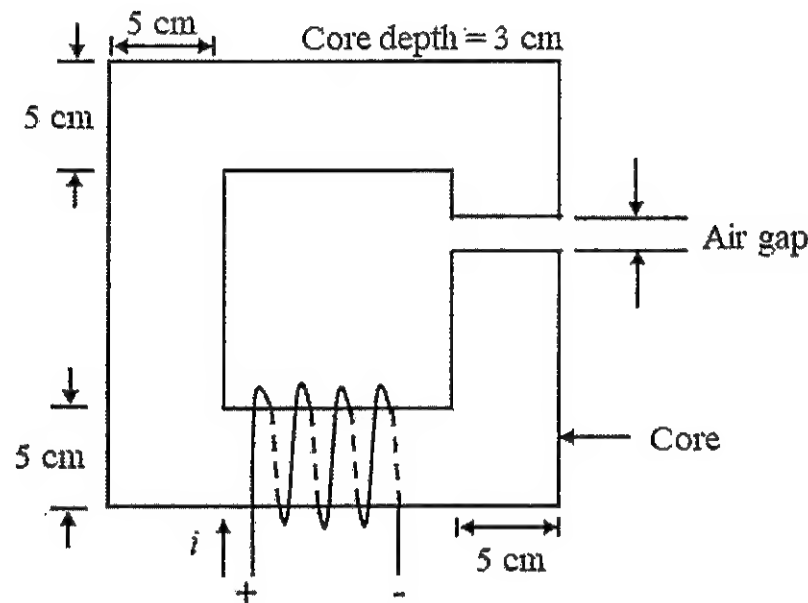

Figure Q1(a)
- (b) A balanced wye-connected load having an impedance of $(15 + j18)\Omega$ per phase is connected to a three-phase line as shown in Figure Q1(b). The line impedance is $(5 + j2)\Omega$ per phase. The line is supplied by a three-phase source with line-to-line voltage of 480 V. Given $V_{bc} = 480\angle -30^\circ$ V and assuming a positive sequence for the source voltages: